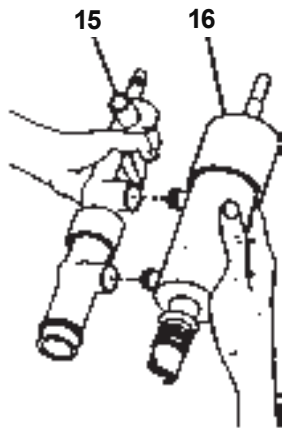

**Figure 6. Manifold Disassembly**
- D. Remove quick connect (4) from manifold (5). Remove two wing nuts (6), locking plate washer (7), and manifold (5). Remove manifold connector O-ring (8) from manifold (5), and manifold "O"-ring (9). Loosen hose clamp (10) and remove hose (11). (See Fig. 6)
- A. Place manifold "O"-ring (9) onto manifold (5) and lubricate lightly. Place manifolds connector "O"-ring (8) onto manifold (5) and lubricate. Place manifold (5) into pressure switch. Position locking plate washer (7) and secure with two wing nuts (6) finger tight. Connect tubing (11) to quick connect (4) and tighten hose clamp (10) finger tight. Connect quick connect (4) to manifold (5). (See Fig. 6)
- B. Install air inlet check valve (30) into cylinder top (31). Do not lubricate. Install air inlet retainer (29) into air inlet valve. Push into place. Check quad ring (33) for excessive wear and replace if necessary. Spray a thin film of lubricant in bottom of cylinder top (31).